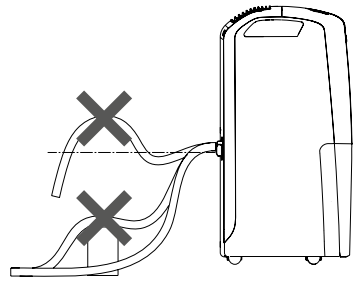

Fig. 5
- 3) Make sure the end of the hose is no higher than the spout (Fig. 3) or water could remain in the tank. Make sure there are no kinks in the hose (Fig. 5).